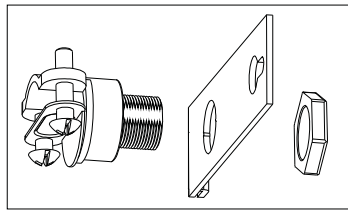

Figure 5
3. Using romex strain relief bushing, leave screws loose to accommodate installation of romex. Insert thread portion of connector into Access plate hole and secure with Hex nut unit tight. Note: Position connector with screw heads on connector facing downward when installed on fixture. See Figure 5.
Voir la Figure 5.